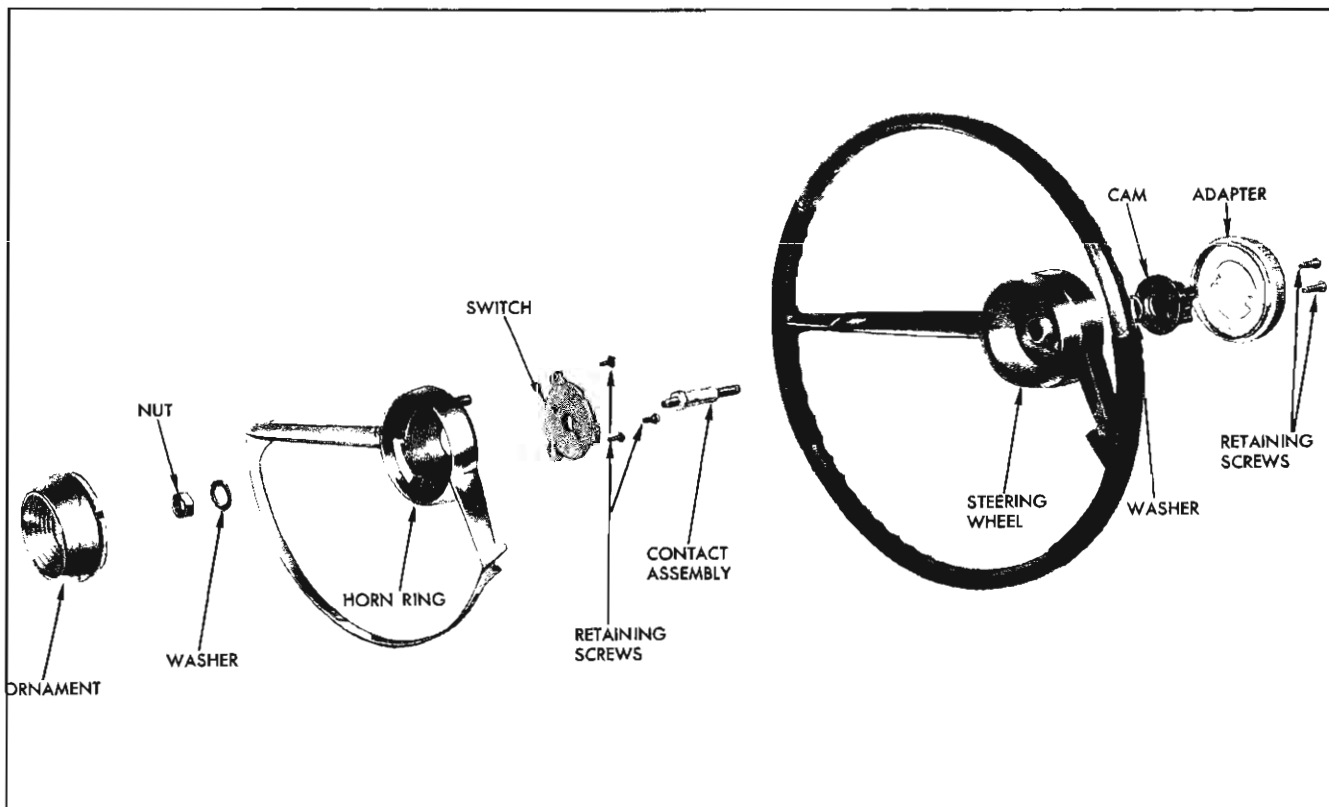

Fig. 9-3 Custom Steering Wheel Assembly
2. Remove retaining nut and washer from steering gear shaft (Fig. 9-3).